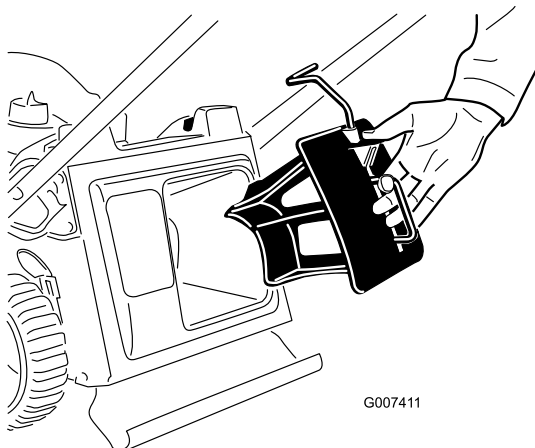

Figure 10
1. Insert the mulch plug into the mower, if it isn't already installed (Figure 10).